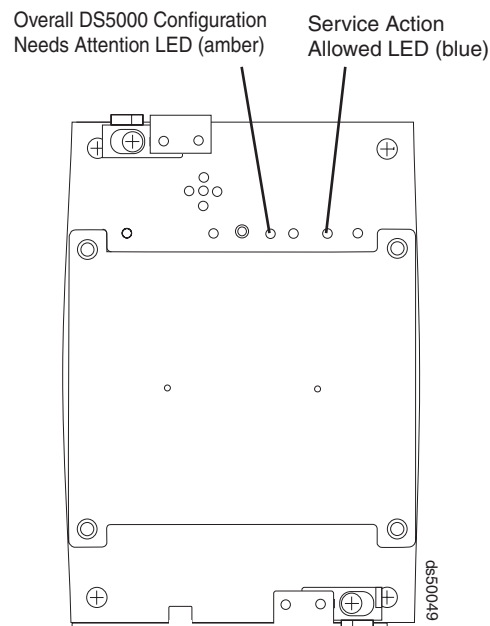

Figure 119. Interconnect-battery unit Needs Attention and Service Action Allowed LEDs
4. Is the Service Action Allowed status LED turned on? (Figure 119 shows the location of the Service Action Allowed status LED on the interconnect-battery unit.)